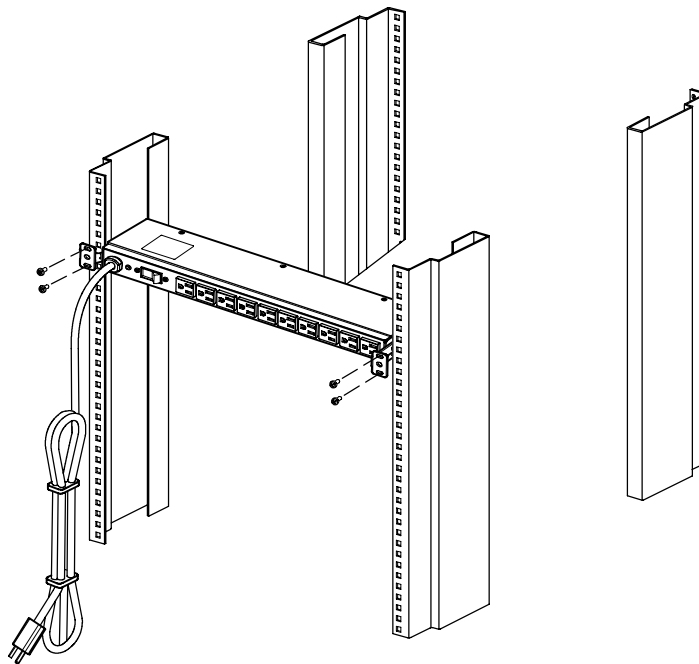

Figure 10. Setup for 1U and 2U Applications (1U Shown)
2. Secure the ePDU to the rack with the supplied screws. Insert the screws through the mounting brackets and then through the rail and the panel nuts installed in Step 1 (see Figure 10).